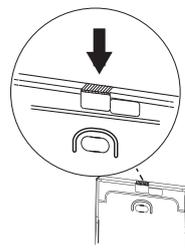

Fig. 3-46
2. Because the simplified remote controller wiring exits the back case (thin part in upper central area), use a nipper or the like to cut out the part to fit the thickness of the simplified remote controller wiring. (See Fig. 3-46)